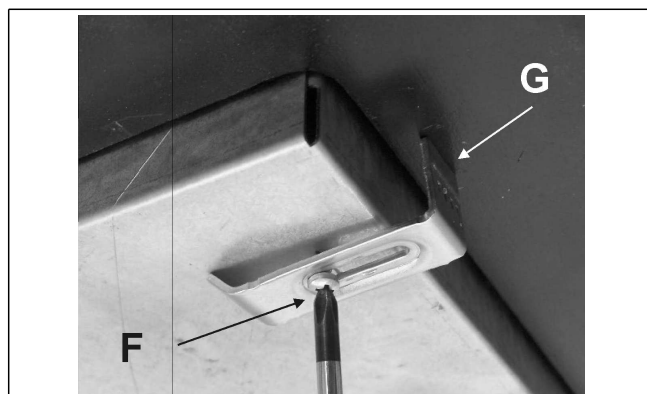

FIG. 10
- Position the hob in the hole in the unit and fasten it in place using the appropriate screws "F" of the fastening hooks "G" (see fig. 10).